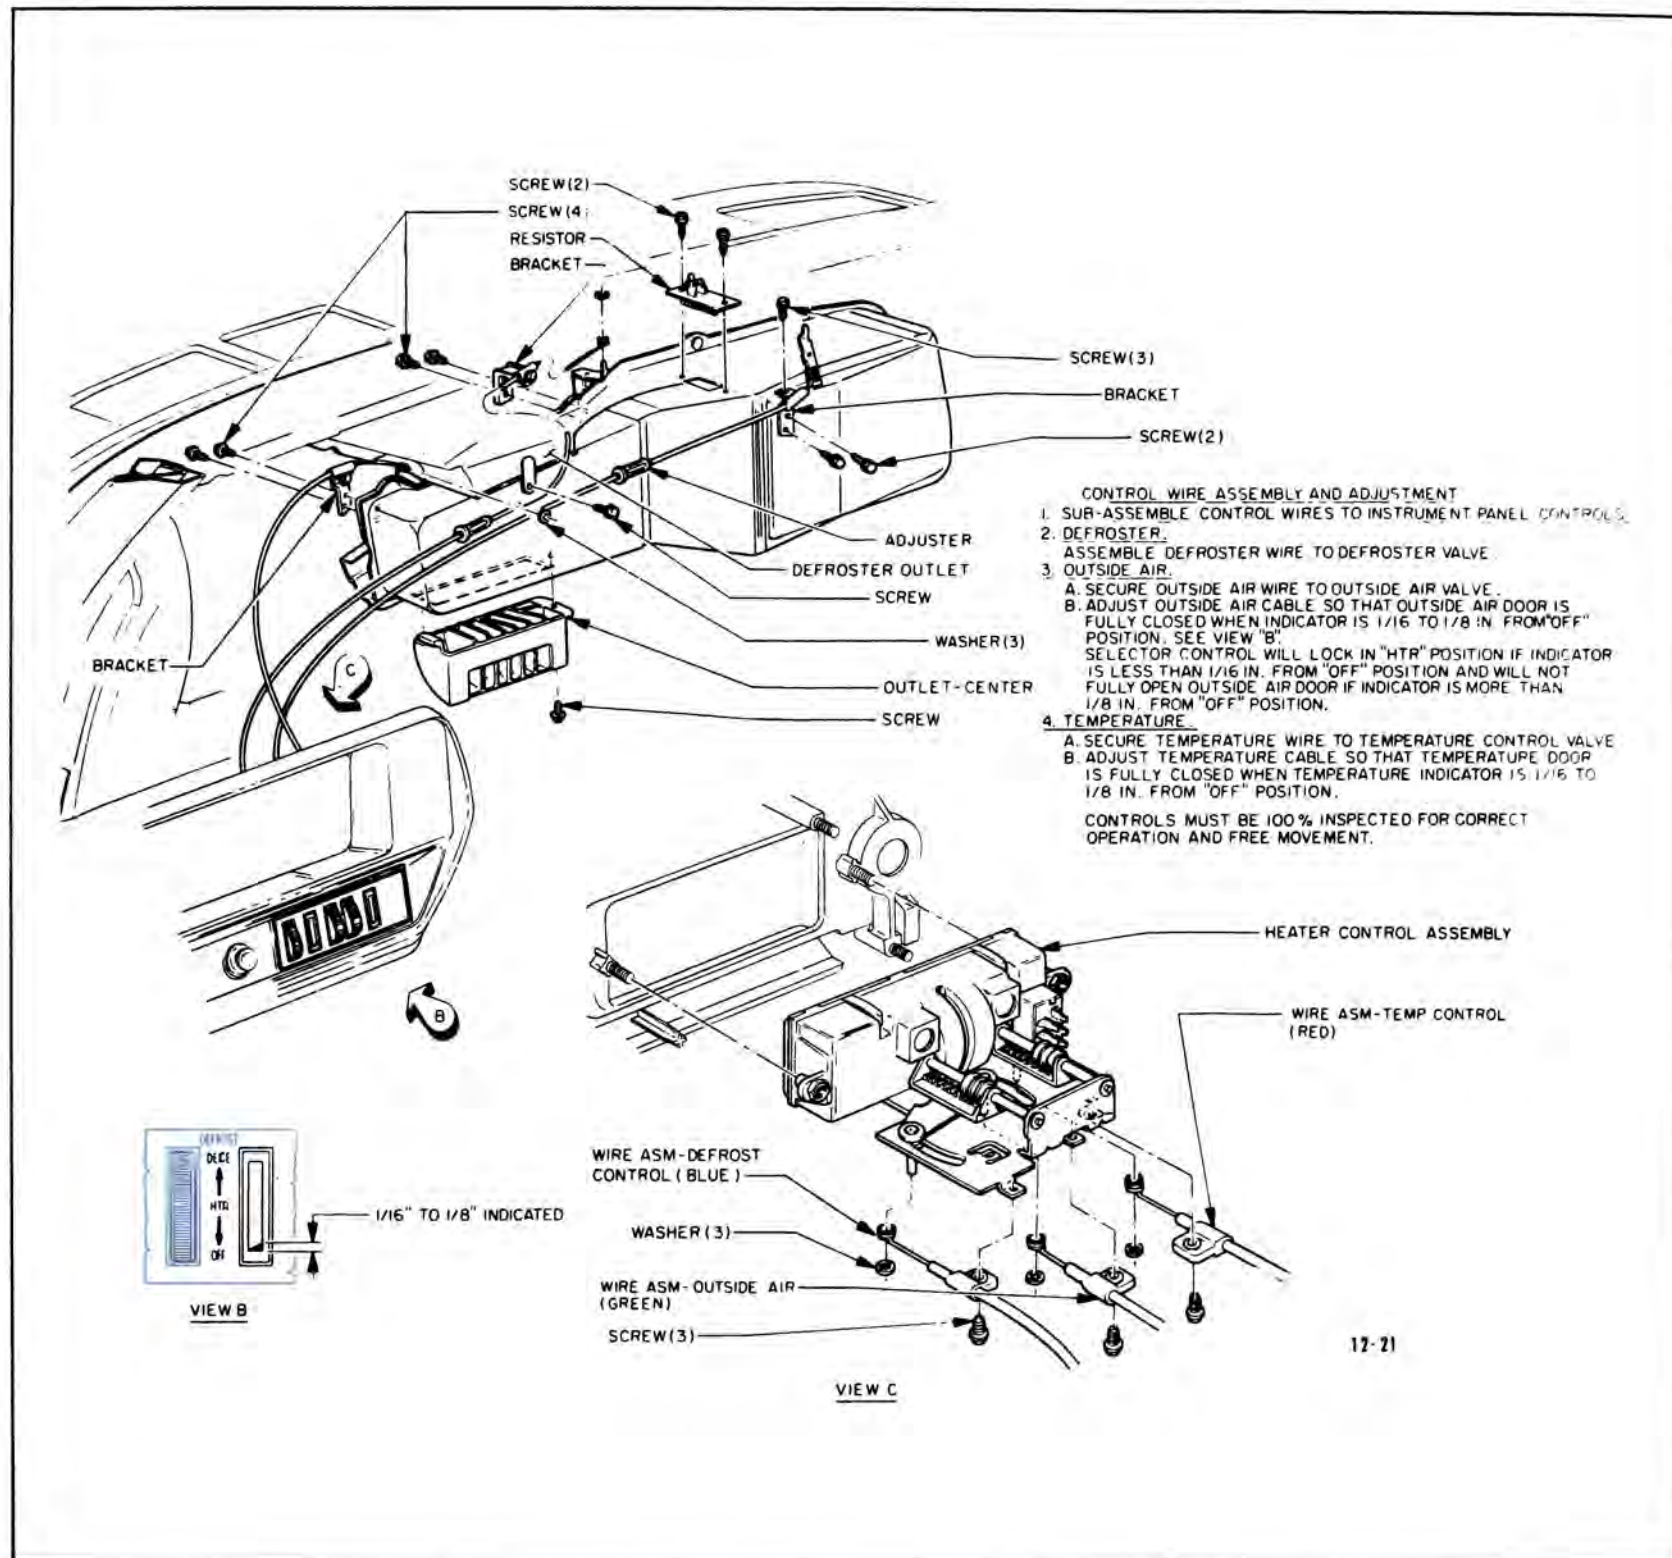

Figure 12-1 Heater Control Wire Installation
control cable adjuster nut until approximately 1/16 to 1/8 inch of indicator is showing. See Figure 12-1.
To adjust, position the TEMPERATURE wheel to the "COOL" position and rotate the control cable adjuster nut until approximately 1/16 to 1/8 inch of indicator is showing. See Figure 12-1.
3. Heater Control Assembly - The heater control assembly (see Figure 12-1) consists of three controls, namely the TEMPERATURE wheel, outside air
from lever of defroster door and outside air inlet door on heater assembly. See Figure 12-1.